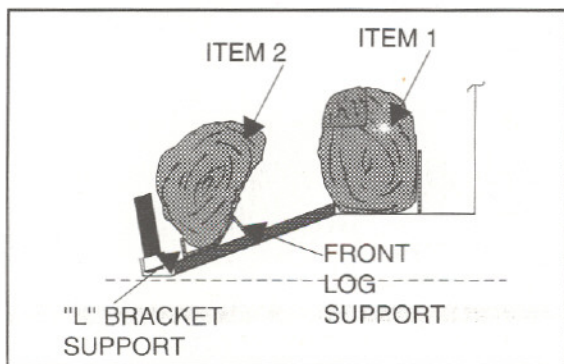
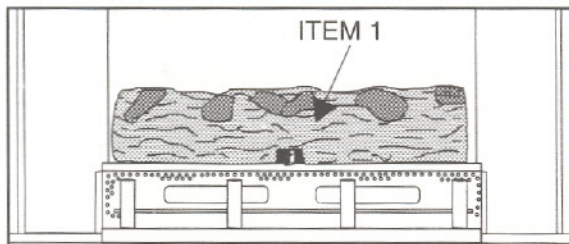

Figure 23
Figure 24
2. See Figure 24. Place the Back Log (Item 1) on the Back Log Support ensuring that the log is in front of the sheet metal tabs. The flat surface of the log will be against the sheet metal tabs. (See Figure 23.)